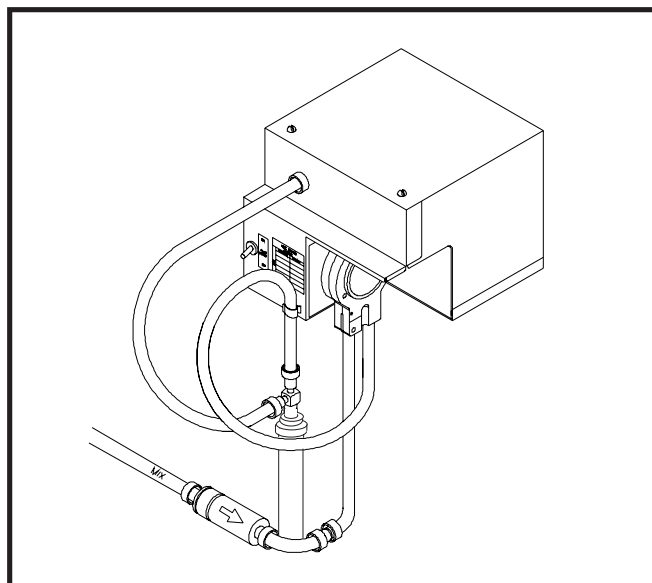

Figure 6
7. Reassemble both hose assemblies per the diagram (Fig.6). Reconnect assemblies to the pump and discharge hose per the diagram, using the clamps.